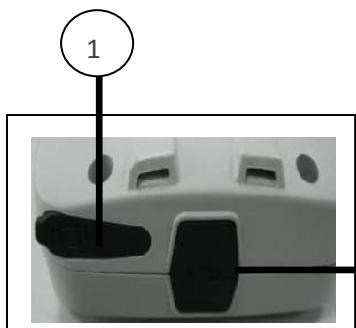

Figure 3.2
1. [Port of LEMO(7 pin)] Connect LT400 with computer via Port of LEMO and USB2.0, can realize the data transmission, the battery charging and GIS sampler power supply and so on. Shown in the **Figure 3.2**